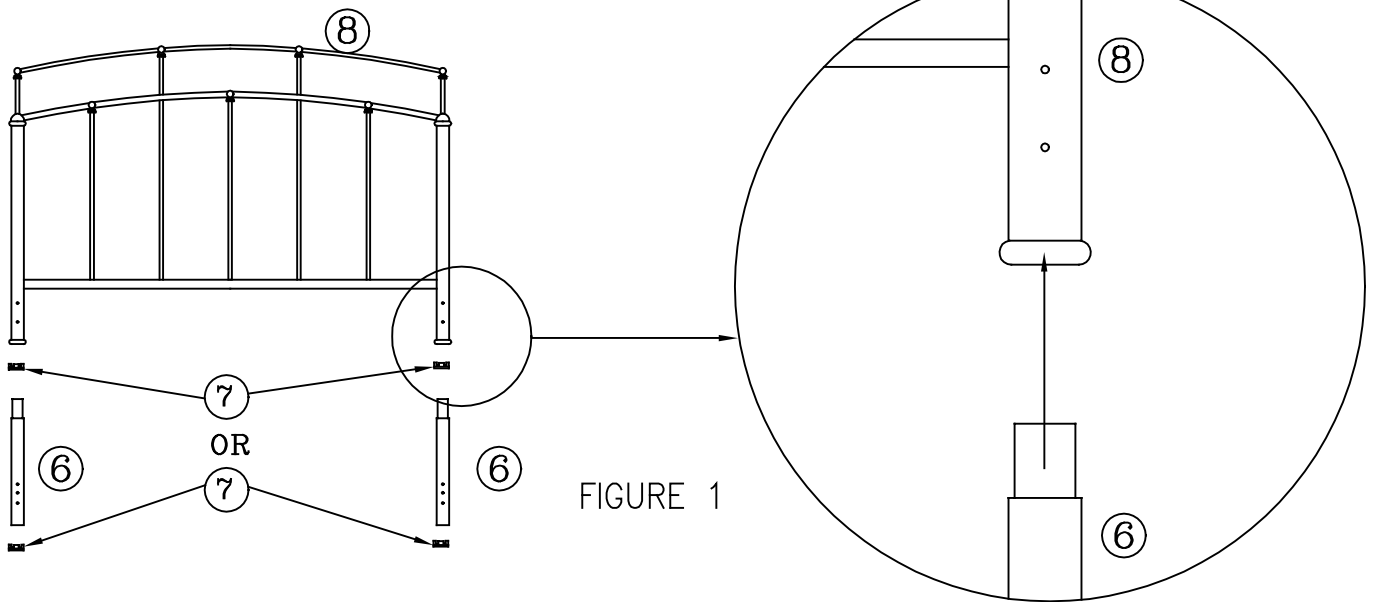

FIGURE 1
NOTE: This product can be used as Headboard only or as Headboard/Footboard bed. Insert plastic glide (7) into leg extension (6) for headboard assembly. For footboard assembly insert plastic glide (7) into bottom of panel (8) posts. See Figure 1
- Align top reduction of extension legs (6) with bottom of headboard posts. (See Figure 1) Make sure the 3 holes on extension legs are perpendicular to headboard panel.
- Now carefully insert extension legs (6) into bottom of panel (8) posts.